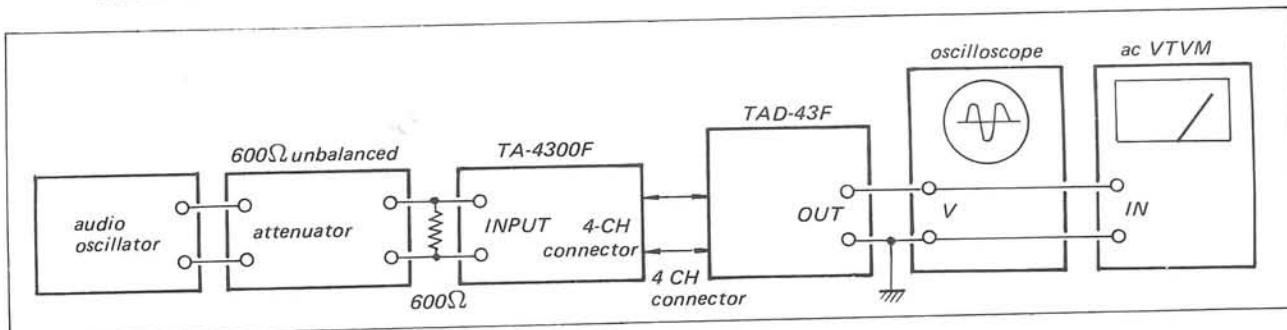

Fig. 3-1 Level check test setup
With the equipment connected as shown in Fig. 3-1, check the output level according to the procedures given in Table 3-1.
- (a) With the equipment connected as shown in Fig. 3-1, set the CROSSOVER FREQUENCY selector switch to 12 kHz. Feed a 5 kHz, 2 dB signal to the INPUT jacks of the TA-4300F, and then adjust the LOWER HIGH LEVEL controls to obtain 0 dB readings at the LOWER HIGH OUTPUT jacks.
- (b) With the equipment connected as shown in Fig. 3-1, set the CROSSOVER FREQUENCY selector switch to 3 kHz. Feed a 20 kHz, 2 dB signal to the INPUT jacks, and then adjust the UPPER HIGH LEVEL controls to obtain 0 dB readings at the UPPER HIGH OUTPUT jacks.
- With the equipment connected as shown in Fig. 3-1, feed a 3 kHz, 2 dB signal to the INPUT terminals of the TA-4300F.